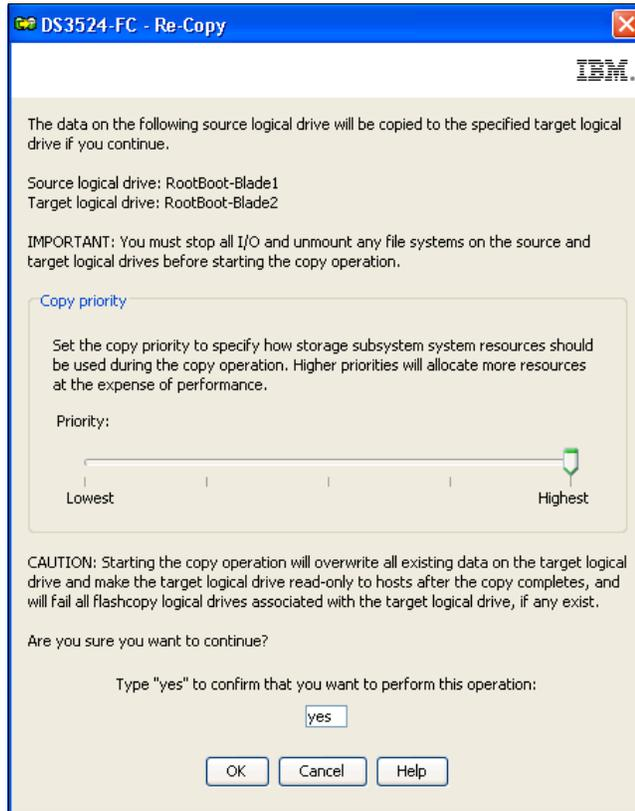

Figure 3-15 Re-copy window
5. Select **Copy** → **Re-Copy**. (Or right-click the copy pair and select **Re-Copy**.) The Re-Copy dialog box (Figure 3-15) opens.